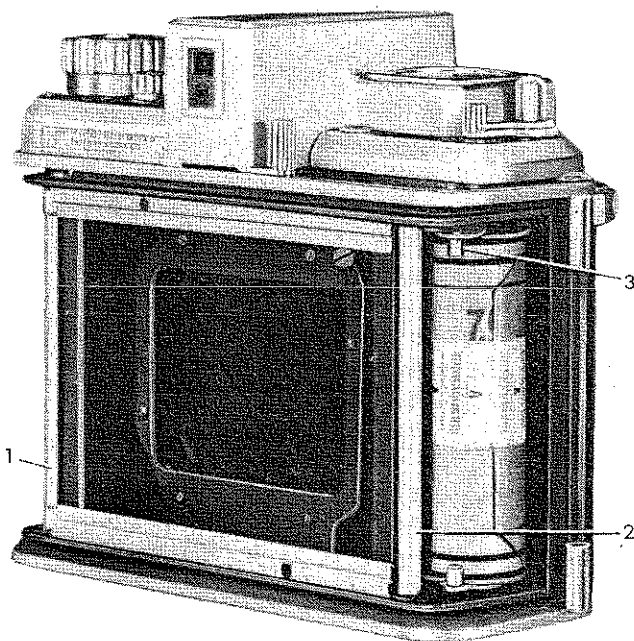
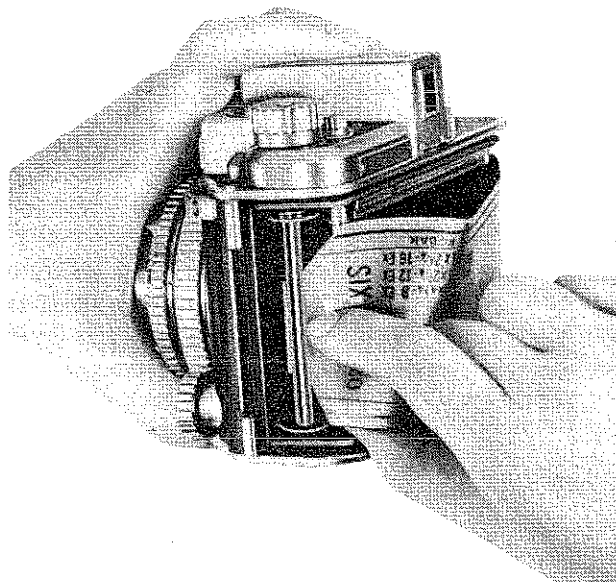

Figure 9—Inserting Roll of Film
Figure 10—Threading Film
(3) Insert the roll of film in the recess which has a spring bracket, with the spool resting under the two projections on the sides of the bracket (figure 9).
(4) Break the seal and pass the protective paper over the spool rollers (3, figure 9), the film roller (2, figure 9), and the safety control driving shaft assembly (1, figure 9). Thread the end of the paper into the longer slit in the empty spool as far as it will go. (See figure 10.)